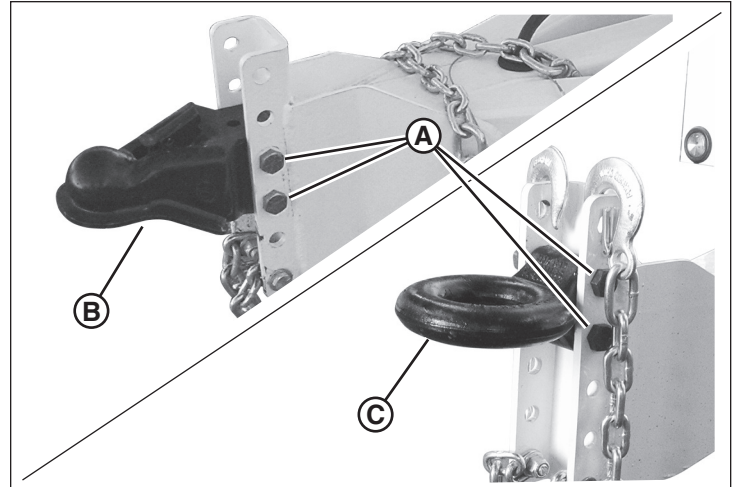

Figure 6
2. Remove the two lock nuts and hex head screws (**A**, Figure 6) securing the trailer coupler (**B**) or lunette eye (**C**) to the tongue. Discard the lock nuts.